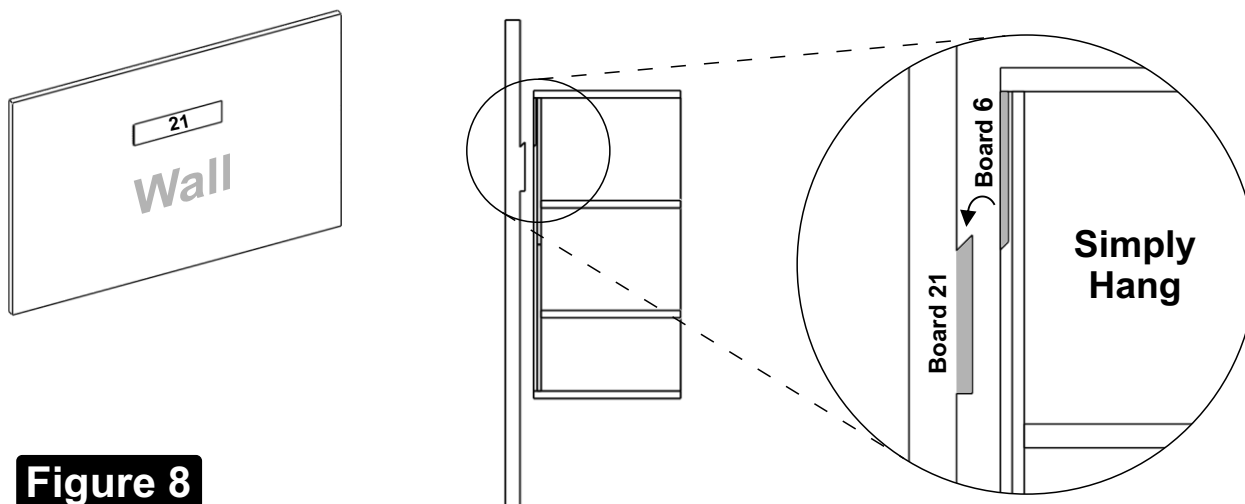

Figure 8
Step 8 : Affix **Board 21** on wall. Hang the Cabinet assembly onto the **Board 6** as shown in Figure 8.